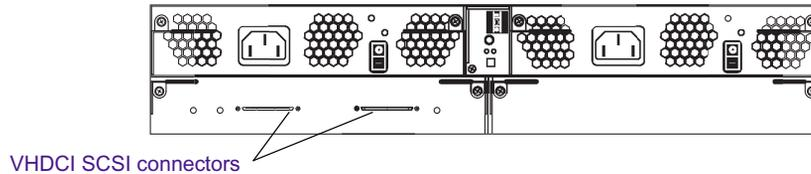

Figure 21 Connecting a SCSI Cable in a Dual-Bus Configuration
5. Connect the other ends of both Ultra320 SCSI cables to either VHDCI SCSI port connection on the rear of the MediaDock Ultra320 (see Figure 21).